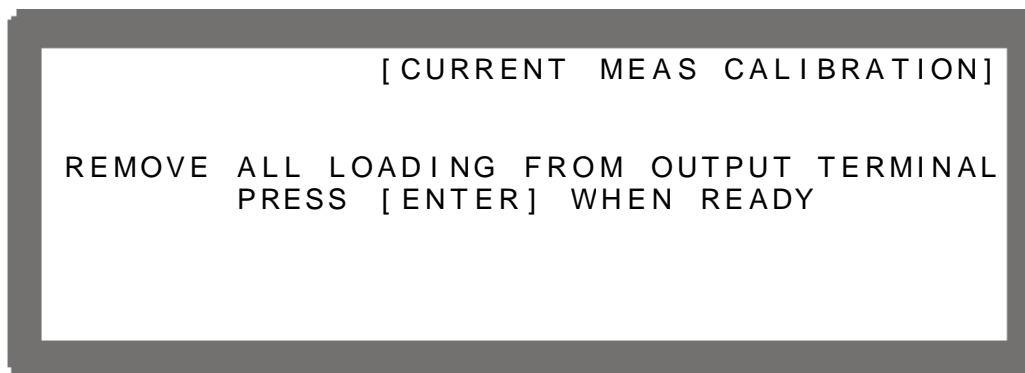

Figure 3-100
2. Press “” to confirm and entering into current calibration options as Figure 3-100 shows.